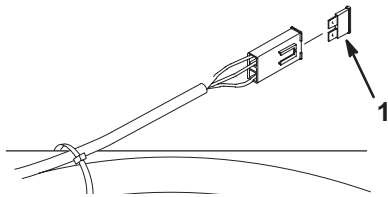

Figure 62
Fuse: Main F1—30 amp, blade-type (Fig. 62)
1. Raise the seat to gain access to fuse holder (Fig. 62).
2. To replace fuses pull out on the fuse to remove it (Fig. 62).